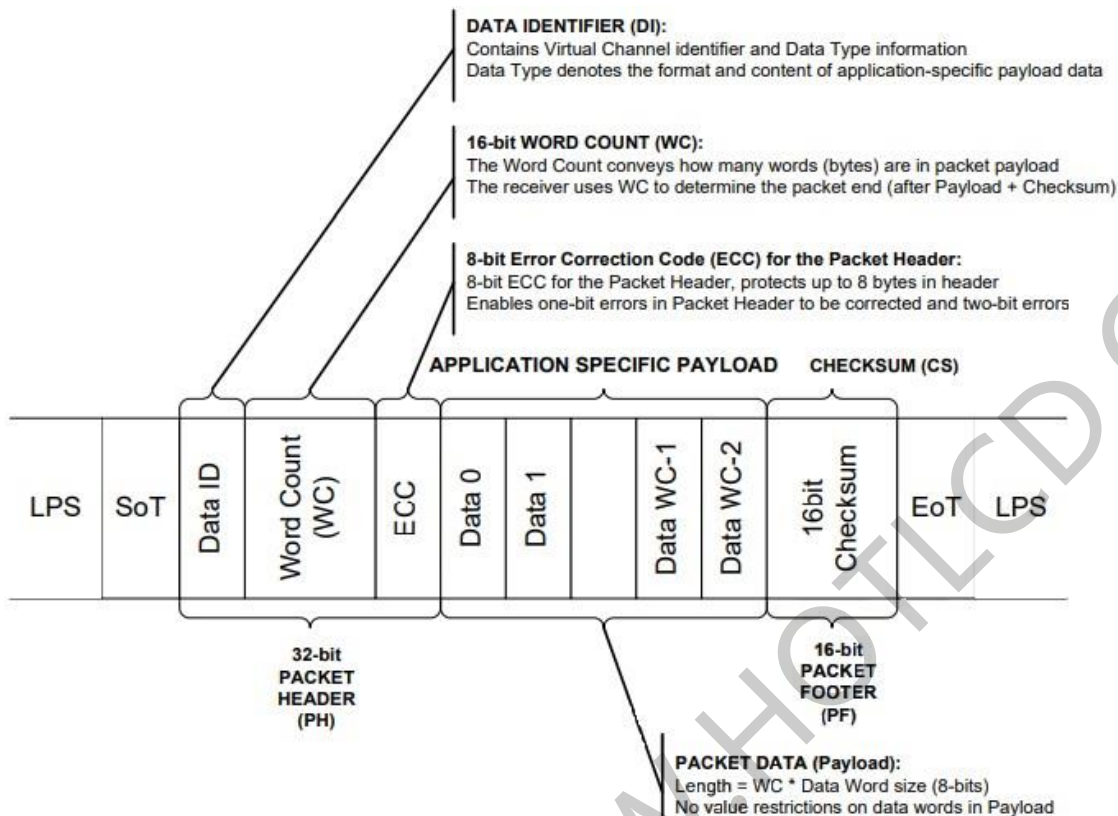

Figure6.22: Long Packet Structure
Figure 6.22 shows the structure of the Long packet. A Long packet shall consist of three elements: a 32-bit Packet Header (PH), an application-specific Data Payload with a variable